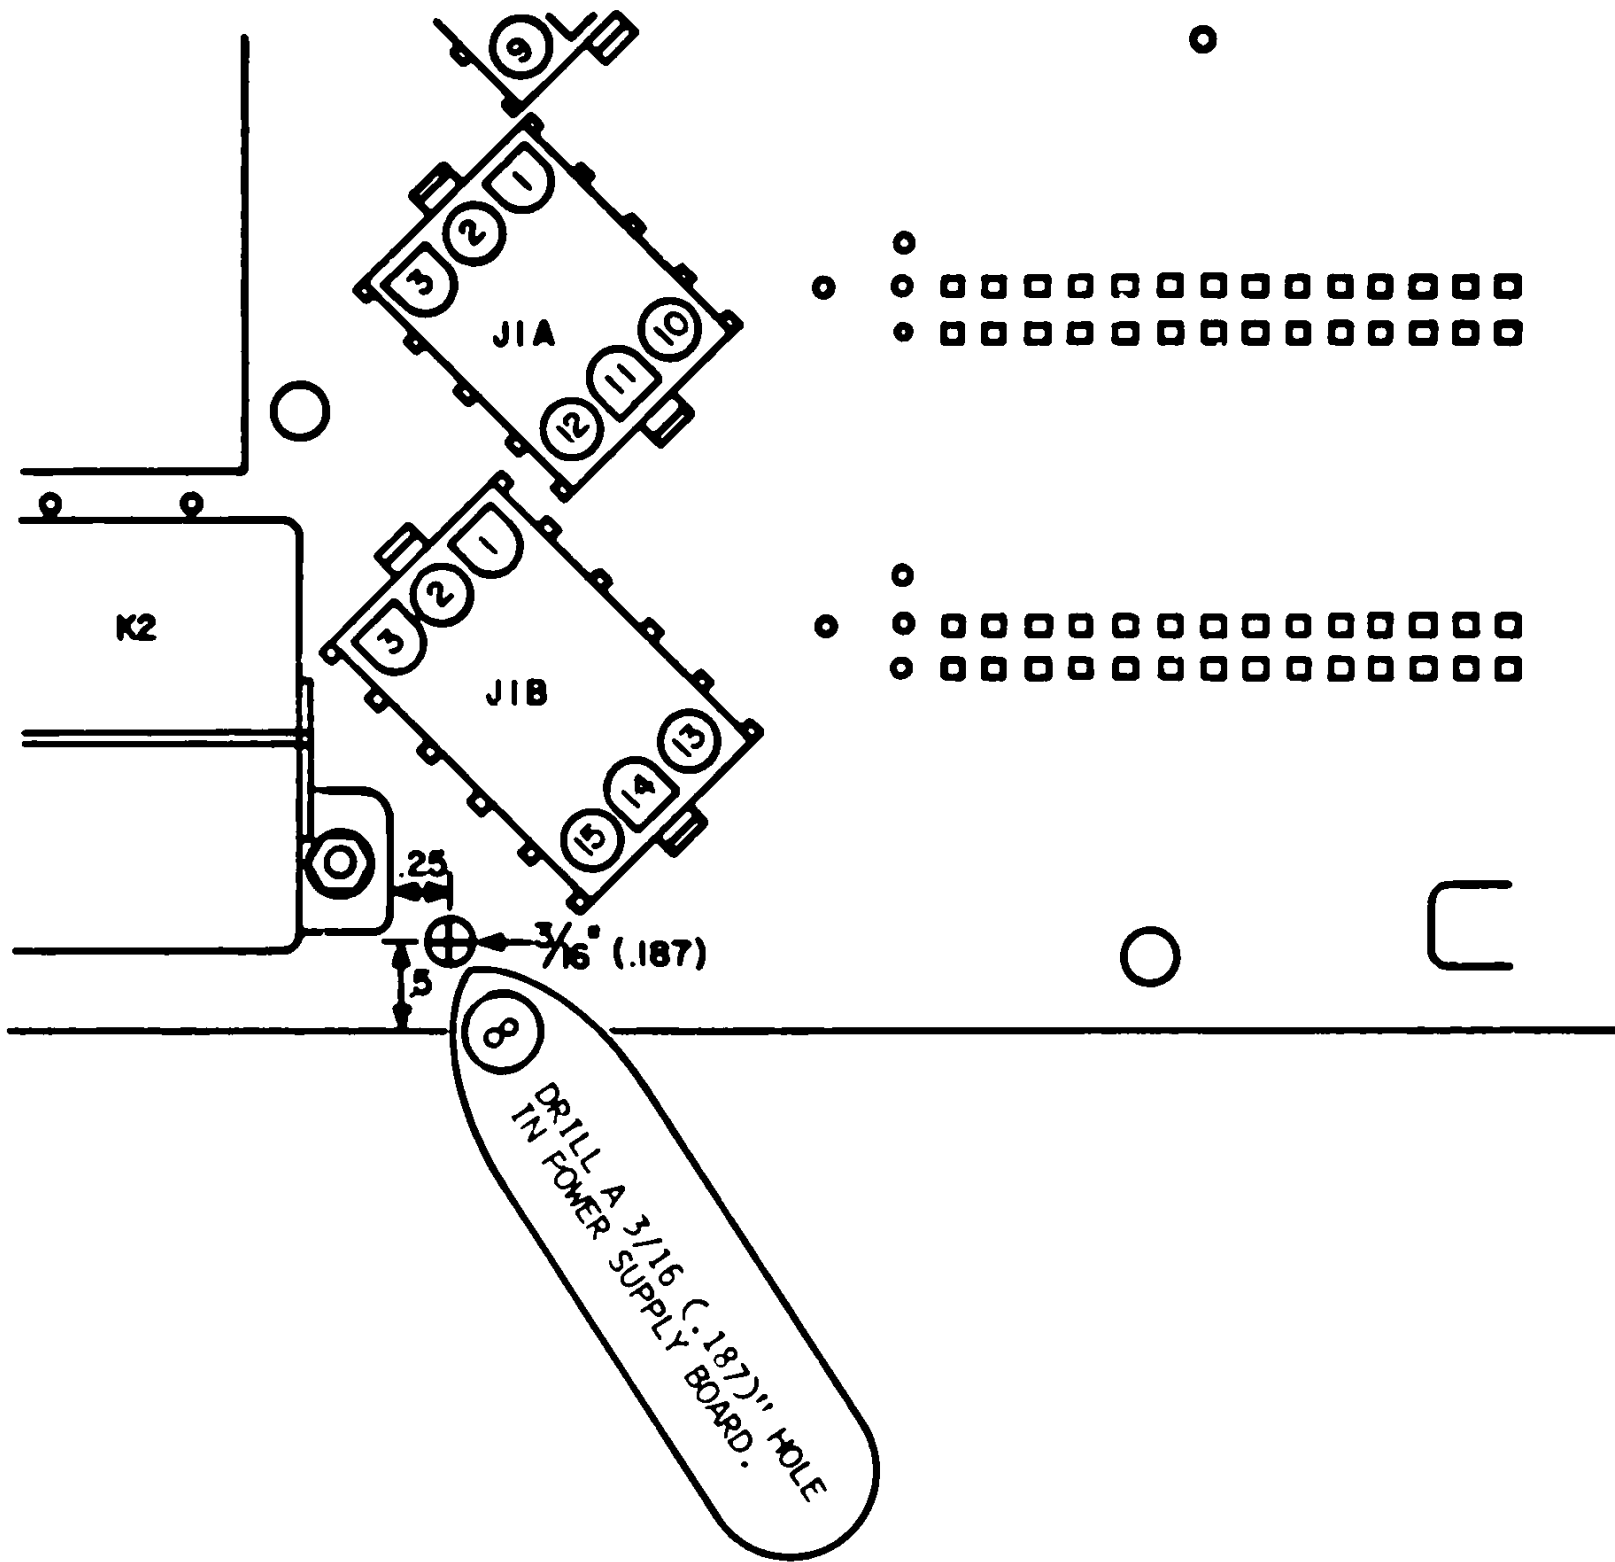

FIGURE 1
- 8- DRILL A 3/16 (.187)" HOLE IN POWER SUPPLY BOARD. (FIGURE 1)